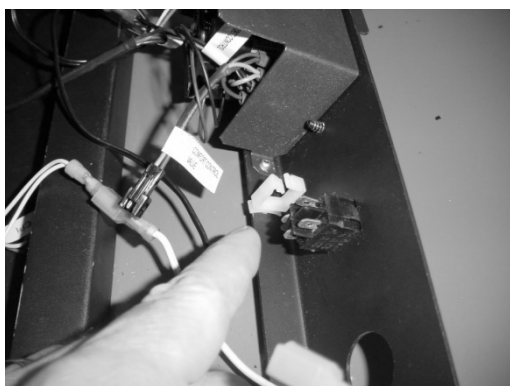
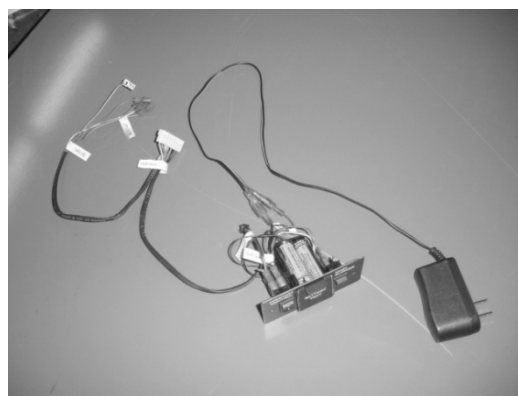

Figure 11
Figure 12
- 8 The control panel has plastic wire-locks attached to the back (see Figure 11). Un-hook the wires from the wire-locks and remove the wiring harness, plate, battery holder, and ac adapter (see Figure 12). These items may be discarded.